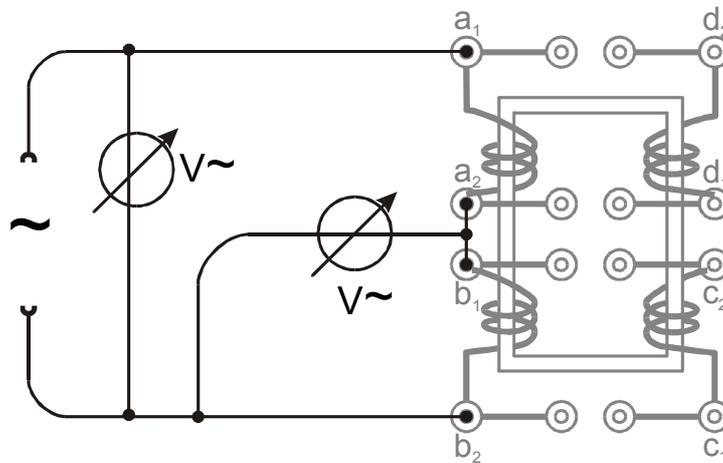

Figure 1.4: Scheme of an Auto Transformer
- Build the auto transformer according to Figure 1.4.